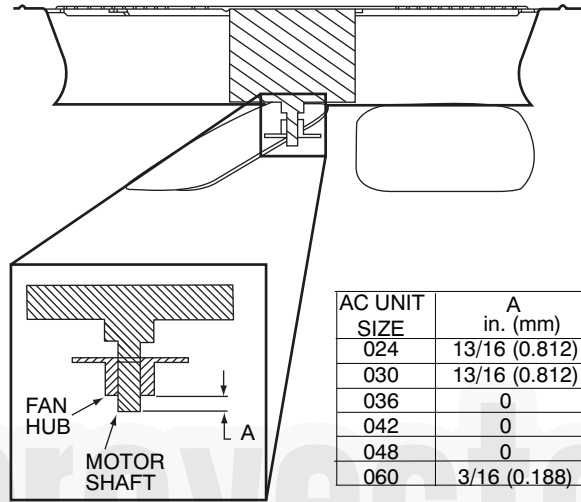

Fig. 15 - Outdoor Fan Adjustment
5. When replacing fan blade, position blade as shown in Fig. 15. Tighten setscrews.